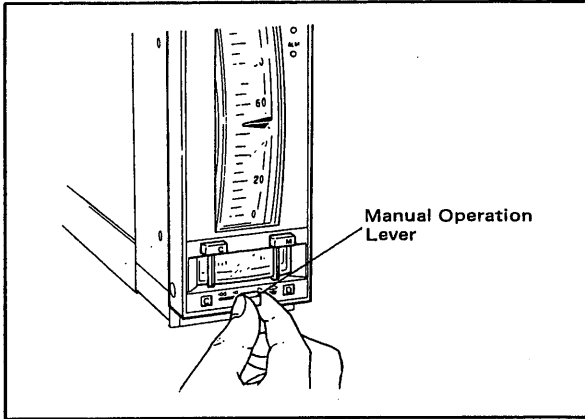

Figure 5-14. Manual Operation.
- (1) Set the manual operation lever to **M** for operation mode. (Refer to 5-3-1.)
- (2) Move the manual operation lever to the left (or the right) to adjust the output signal. (See Figure 5-14.)